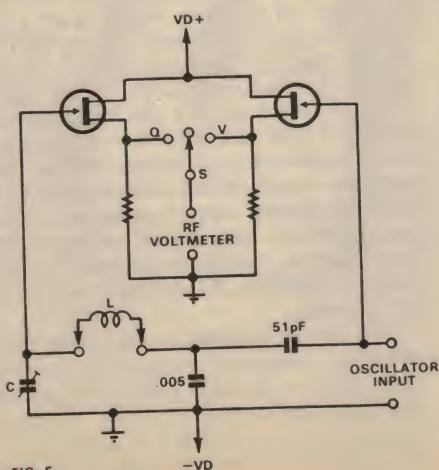

FIG. 5
This is shown, in essentials, in Fig. 5. The scheme was originally suggested by J. Luijckx (2) and his version used a twin-triode valve of RF type. In that form it works well and presents few problems, but it was felt that a semiconductor version was worth developing. It consists basically of two matched RF buffer circuits of the source-follower type, one measuring the RF input from the oscillator and the other the magnified voltage across the tuned circuit, with a switch to connect an external voltmeter to either buffer. The input of 1 volt, monitored by Tr_2 and the external voltmeter with switch S set to "V", is applied to the
Field-effect transistors more nearly match the very high input resistance and low losses of the original valve circuit than do bipolar transistors. They are connected as source-followers to more thoroughly isolate the voltmeter from the tuned circuit and oscillator. In the practical circuit this thought was carried further by using MOSFETs (with insulated gate) instead of the junction FETs of Fig. 5. They are fully comparable with valves in respect of high input resistance and low RF losses, and the effect of Tr1 on the Q of the tuned circuit is then negligible.